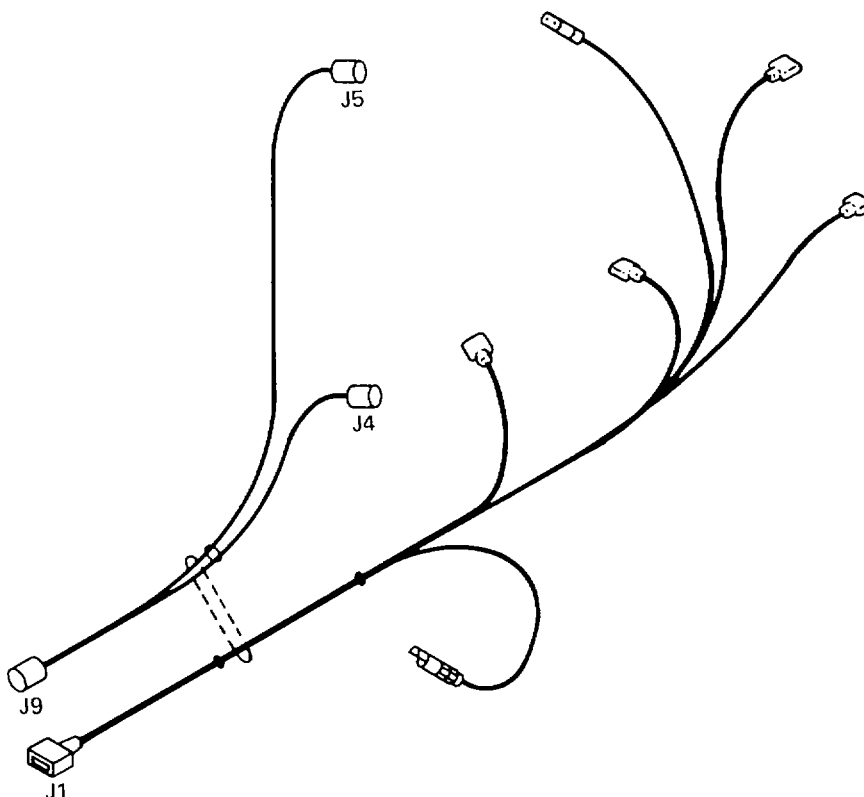

Figure 2-22. Engine Wiring Harness
a. REMOVE. (Figure 2-22)
- (1) Open engine access doors.